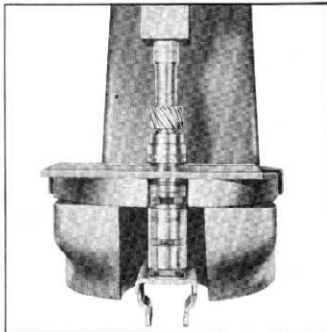

Fig. 194—Pressing Gear Into Sleeve
- Support governor on $\frac{3}{16}$ " plates installed in exhaust slots of sleeve, position new gear in sleeve and with a suitable socket press gear into sleeve until nearly seated. Then, carefully remove any chips that may have shaved off gear hub and then press gear in until it bottoms on shoulder (fig. 194).